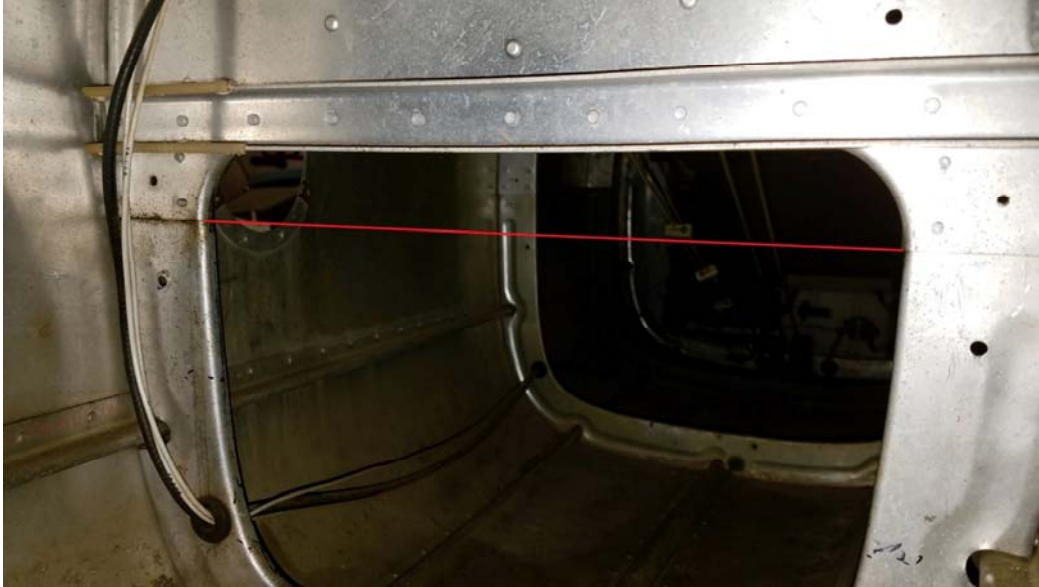

Figure 3-5
(1) Clamp the Cessna 177 pitch plate to the rear side of the former. The upper flange on the pitch plate must be level with seam in the former shown in Figure 3-5. Center the pitch plate left to right in the fuselage.